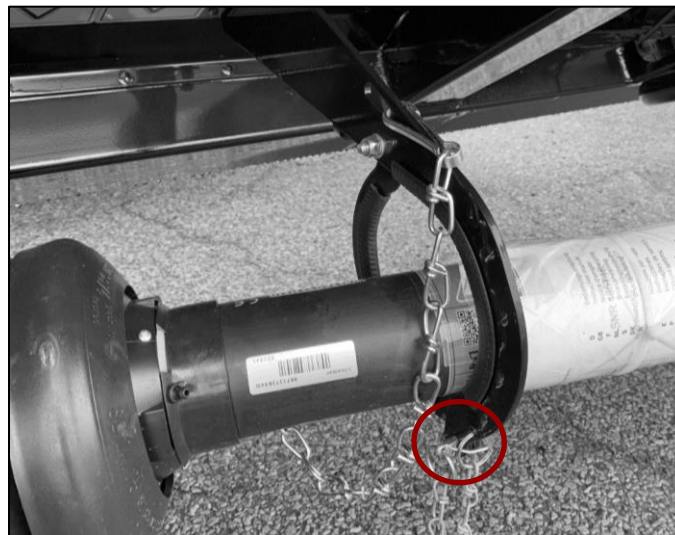

Figure 14: Driveline secured to storage bracket via green shipping wire.
- b. Check drivelines are secured to storage brackets via lynch pin (Figure 14). If missing, drivelines can fall out during shipping.